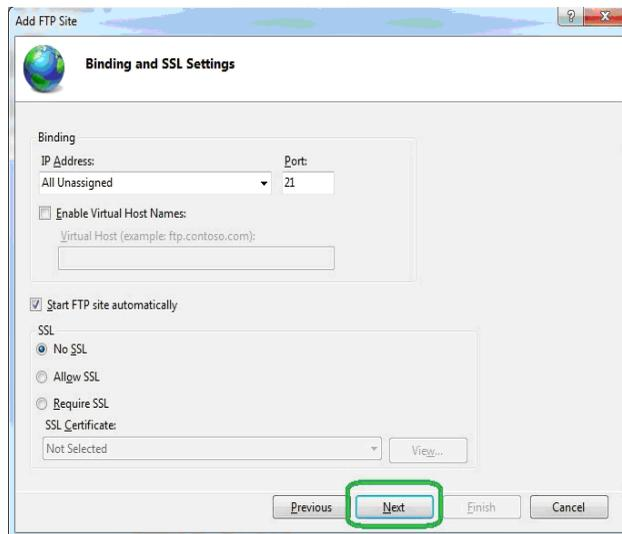

FIGURE 2-34 Add FTP Site - Binding and SSL Settings
Step 9 On the Binding and SSL Settings page, Select **All Unassigned** for IP Address, as shown in FIGURE 2-34.
Step 10 Specify the port for the FTP site, as shown in FIGURE 2-34. The default is 21.